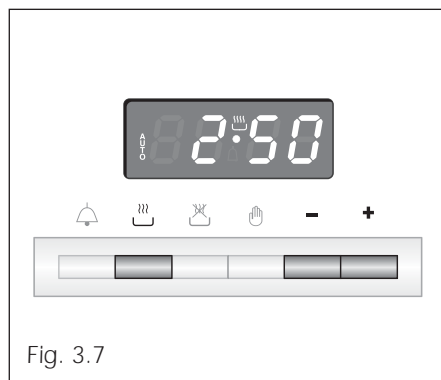

Fig. 3.7
1. Set the length of the cooking time by pushing the  button and the  button to advance, or  to go backwards if you have passed the desired time (Fig. 3.7).